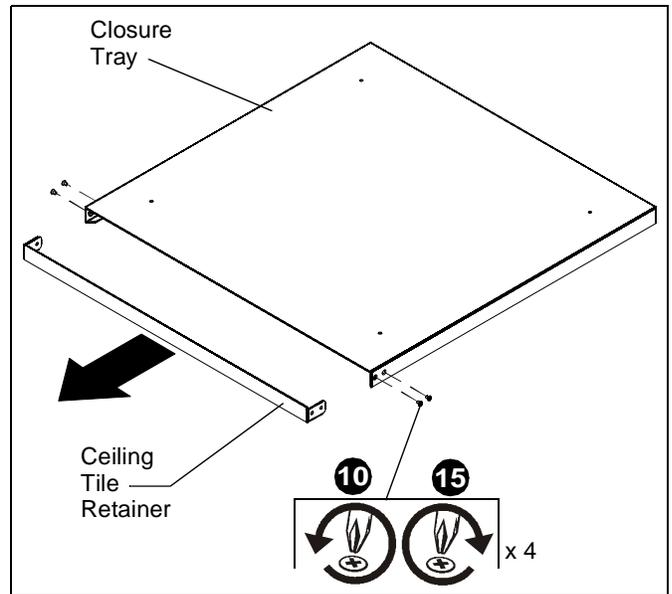

Figure 9
10. Remove four screws and the ceiling tile retainer from the closure panel. (See Figure 9)
15. Re-install ceiling tile retainer to closure panel and secure with four screws removed in Step 10. (See Figure 9)